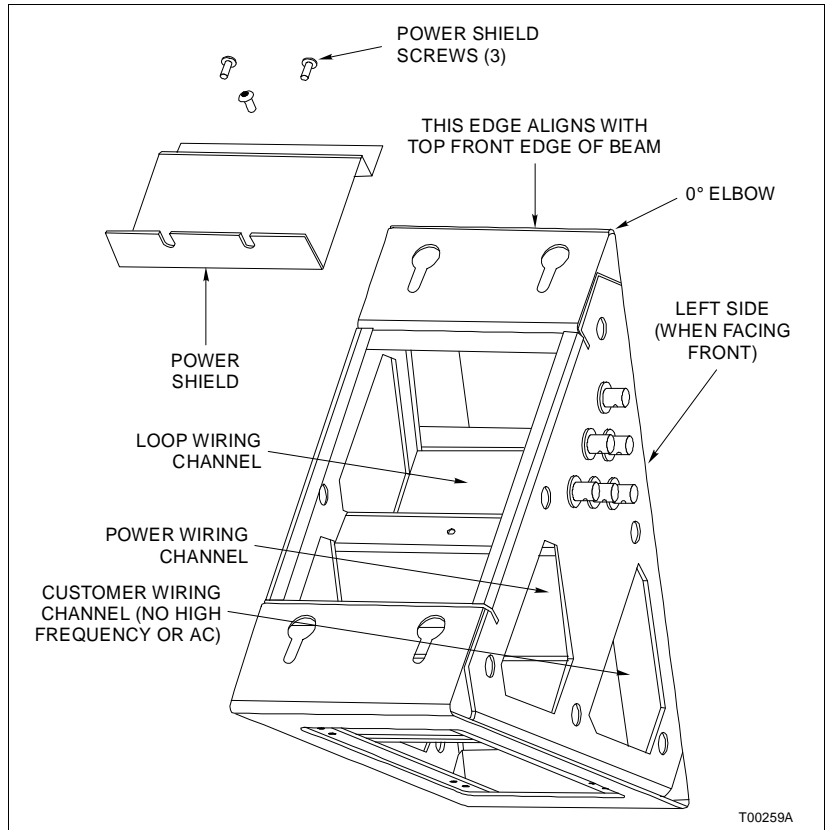

Figure PR26-2. Elbow (Typical)
- 3. Use the M4 Allen wrench to remove the power shield screws from the elbows and the ends of all the beams and remove the power shields. Figure PR26-2 shows the power shield on a 0° elbow. This arrangement is typical of the 45° elbow and the beam.